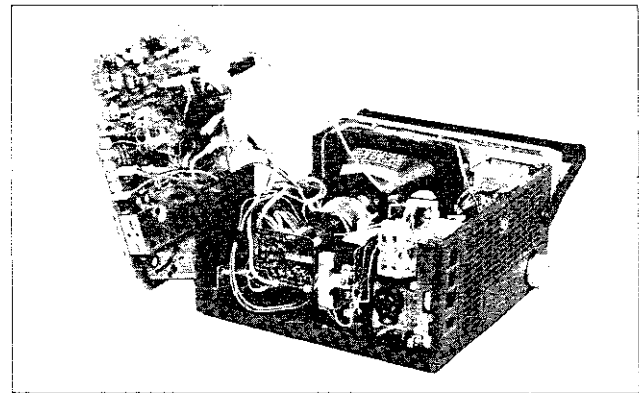

Fig. 2-3
5. Should any parts other than the colour TV unit require alignment or repair, lift and remove both the colour TV P.C. board and the side control panel (without disconnecting them from each other), and preferably position the unit with the side control panel facing downward, as illustrated in Fig. 2-3. This is the safest positioning, and is recommended for adjusting purity or convergence. Remove the wire clamps if necessary.